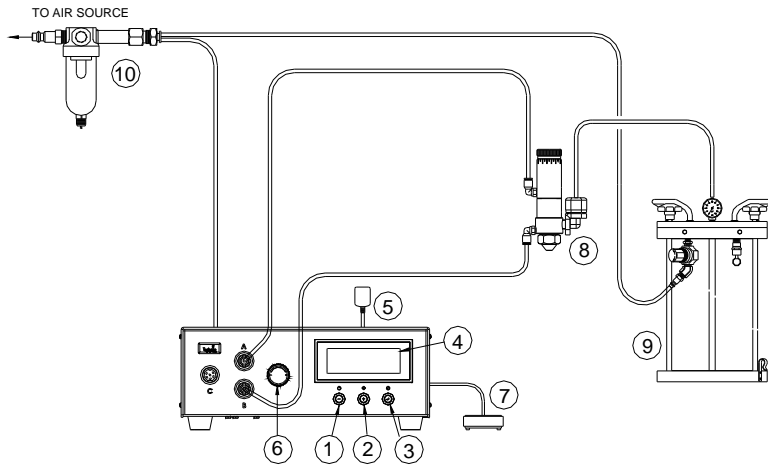

Figure 4.0
5.2.1 Connecting The Unit: (Refer to Figure 4.0)